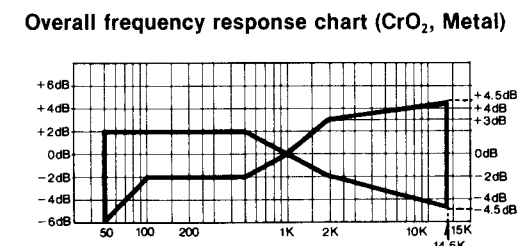

Fig. 16
- Change test tape to CrO₂ reference blank test tape (QZZCRX), and record 1kHz, 50Hz, 100Hz, 200Hz, 500Hz, 4kHz, 8kHz, 10kHz, 12.5kHz, 14kHz and 16kHz signals. Then, playback the signals and check if the curve is within the limits shown in the overall frequency response chart for CrO₂ tapes (fig. 16).
- Place UNIT into metal tape mode and change test tape to metal reference blank test tape (QZZCRZ), and record 1kHz, 50Hz, 100Hz, 200Hz, 500Hz, 4kHz, 8kHz, 10kHz, 12.5kHz, 14kHz and 16kHz signals. Then, playback the signals and check if the curve is within the limits shown in the overall frequency response chart for metal tapes (fig. 16).